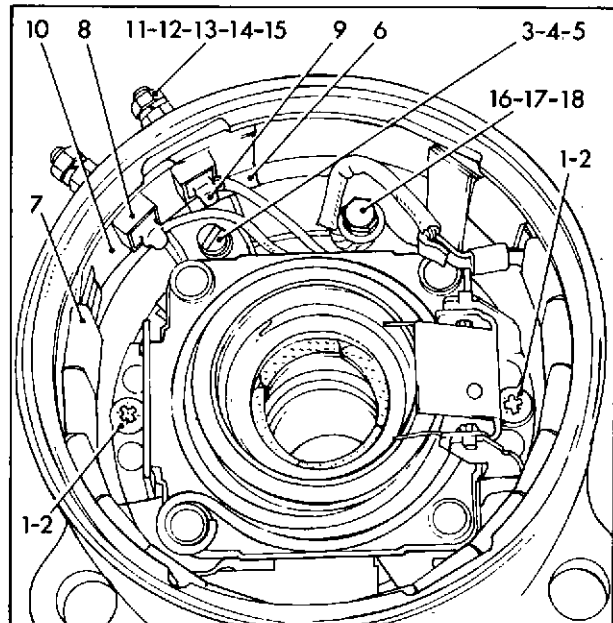

Fig. 19 Replacing solenoid switch unit
4. Smear the solenoid plunger return spring with Aero Shell 16 grease and place it in the drive end shield. Insert the switch assembly into the shield with the fixed contact connecting arm in line with the main terminal. Fit retaining screws (1) fig. 19 with spring washers (2) and tighten to a torque value of 2.03 to 2.26 Nm (18 to 20 lbf. inch). Insert screw (3) together with washers (4) and (5) and tighten to a torque value of 2.03 to 2.26 Nm (18 to 20 lbf. inch). Fit the leatheroid insulator (6) in the resistor groove and assemble resistor (7) into position in the drive end shield.
5. Fit the insulator (8) over the terminals (9) and insert the terminals through the resistor plate (10), leatheroid insulator and drive end shield. Fit sealing ring (11), insulating bush (12), plain washer (13), spring washers (14) and nuts (15) to each terminal. Tighten to a torque value of 2.03 to 2.26 Nm (18 to 20 lbf. inch).
6. Secure the resistor flexible lead to the switch with screw (16), spring washer (17) and plain washer (18) and tighten to a torque value of 1.69 to 2.03 Nm (15 to 18 lbf. inch).